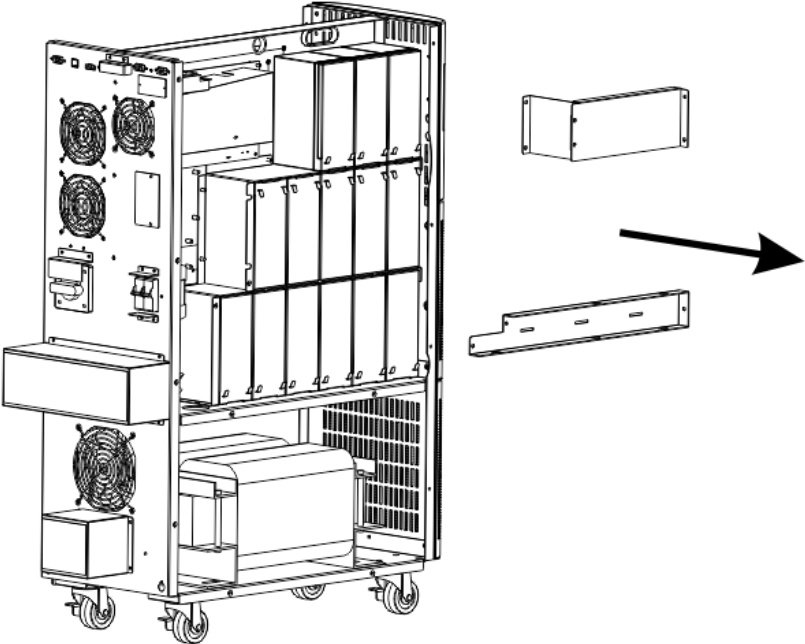

FIG. 4
14. Remove the battery retaining bracket retaining screws and the battery retaining brackets on the right hand side (FIG. 4).